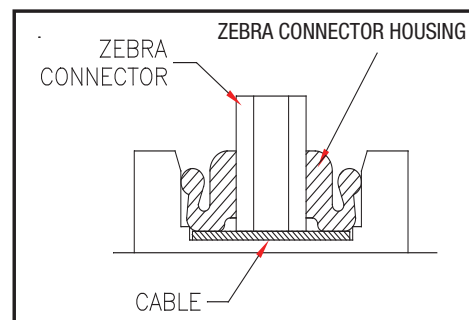

Figure 15 - Zebra Assembly
3. Place the generator Zebra connector and connector housing assembly over the generator cable, and press it into the recess. The hole in the Zebra connector housing must be positioned over the post in the dial ring. Be sure that the black Zebra connector housing is positioned as shown in Figure 15.